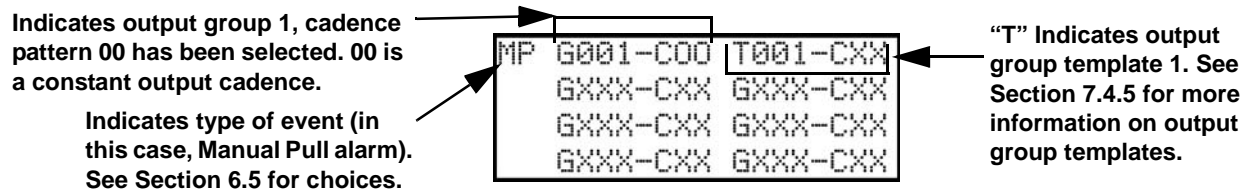

Figure 7-4 Selecting Output Groups/Templates and Cadence Patterns for a Zone Event
6. A screen similar to the one shown in Figure 7-4 will display. Press ENTER.
8. Select options for each event that could occur in this zone. Figure 7-4 is a complete example of how you might map a zone.